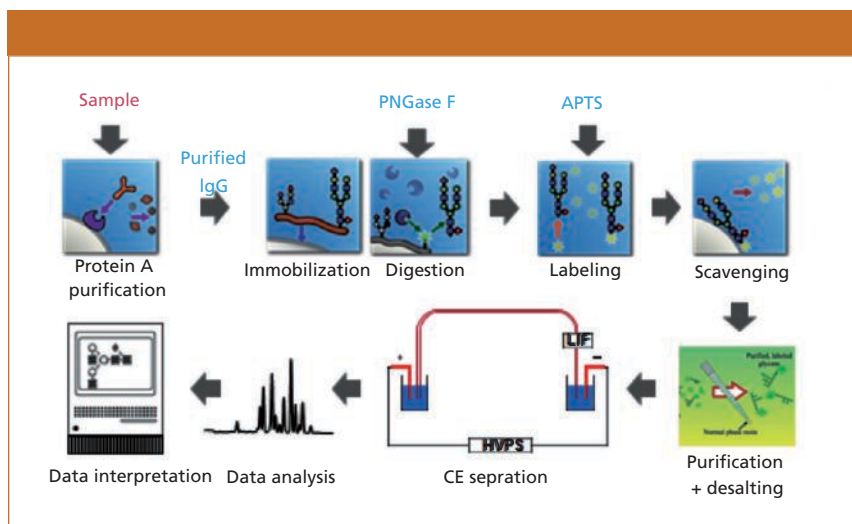

Figure 4: Capillary electrophoresis–based IgG glycan analysis flowchart.
One of the most frequently used applications of CE in the analysis of biotherapeutics and biosimilars is the characterization of protein glycosylation, which requires pre-separation derivatization with a charged fluorophore after the release of glycans (both N- and O-linked). This reductive amination-based, rapid, single-step labeling reaction (usually with APTS) features great efficiency (>90%) and provides a triple-charged fluorescent tag supporting excitation at 488 nm with 520-nm emission. Quantification is easy because only one fluorophore is conjugated to one sugar entity (23). Figure 4 delineates a CE-based glycan analysis workflow for therapeutic antibodies, starting with sample purification with protein A cartridges, through APTS labeling, sample cleanup, CE analysis, and database query. Such characterization of monoclonal antibody (mAb) N-linked glycans readily gives comprehensive information on their structural diversities, such as the presence of core fucosylation or immunogenic sugar residues, such as alpha 1 \rightarrow 3 galactosylation or *N*-glycolylneuraminic acid. This assessment of glycosylation microheterogeneity is very important during clone selection, process control, and lot release for both the therapeutic recombinant mAbs and their biosimilar counterparts.